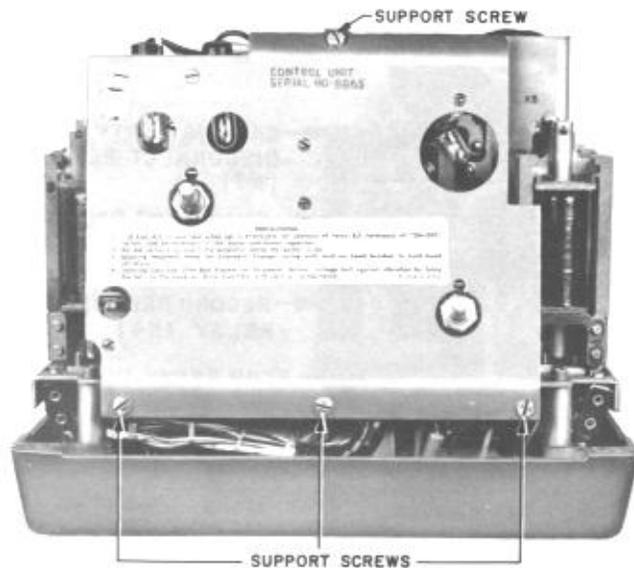

Fig. 7 - Control Panel Support Screws
- 1.11 The control panel is held in place by four captive screws in front of set (Fig. 7).